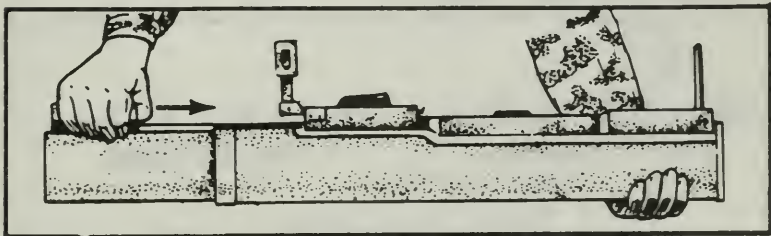

Figure 165. Collapsing the launcher slightly.
- c. Collapse the launcher slightly (Figure 165).